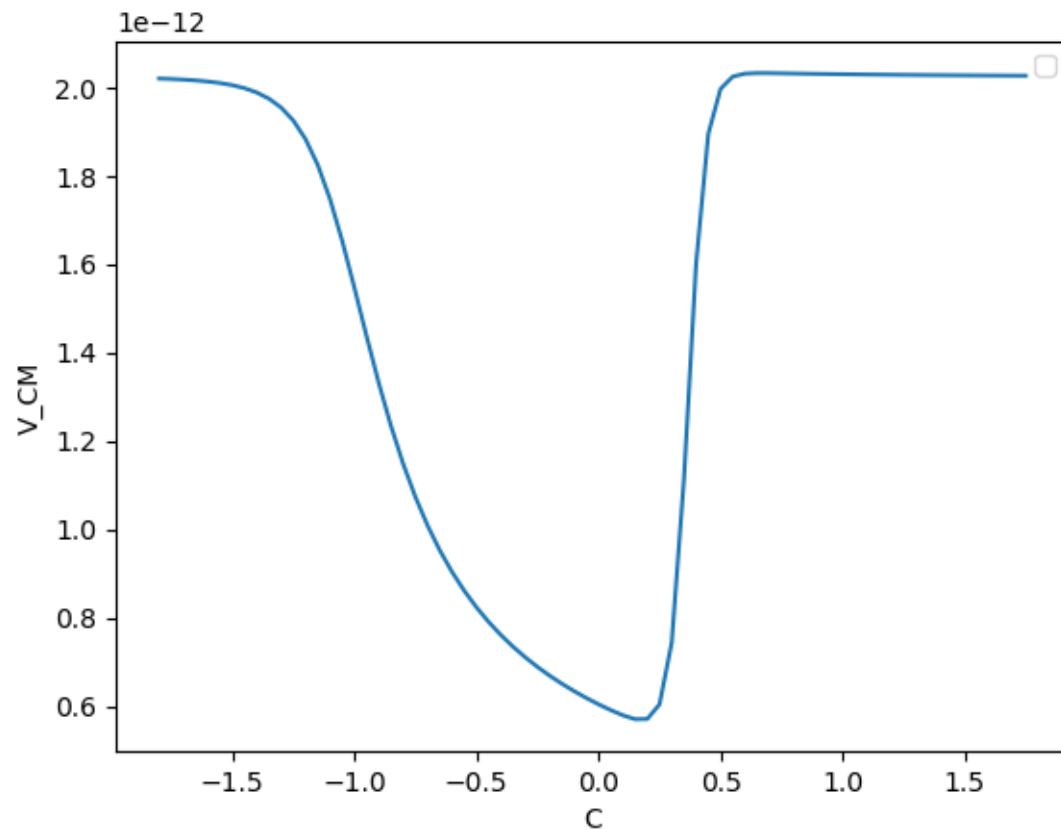

Figure 3: Long Channel, $f=100\text{Hz}$
- Please refer Figure 3 for the plot.